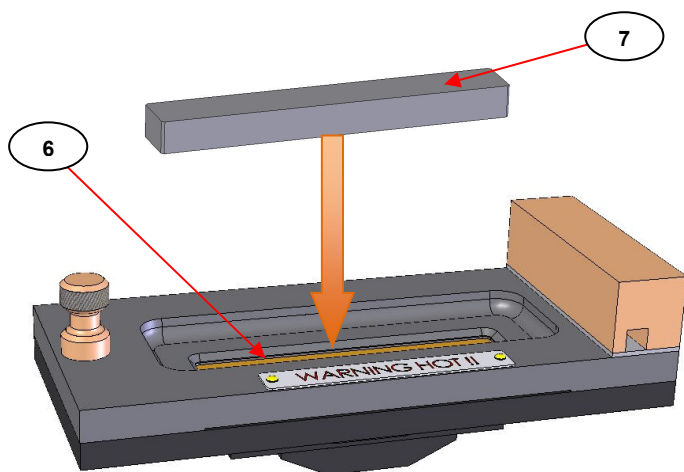

Fig 4. PTFE Pressure Bar Used With Electrically Heated Trough Top Plate
Although the Electrically Heated Trough Top Plate has been specifically designed for the ATR measurement of liquid sample types at elevated temperatures up to 200°C, flexible semi-solid, film type samples can be analysed by use of this Top Plate with the supplied PTFE pressure bar (7) and employment of the Gateway™ ATR Clamp Assembly fitted to the optical unit. (See Fig 4.)